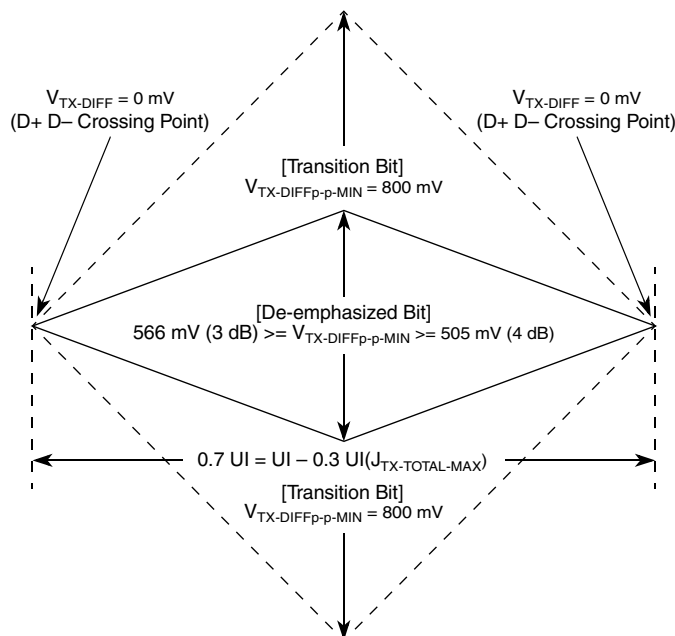
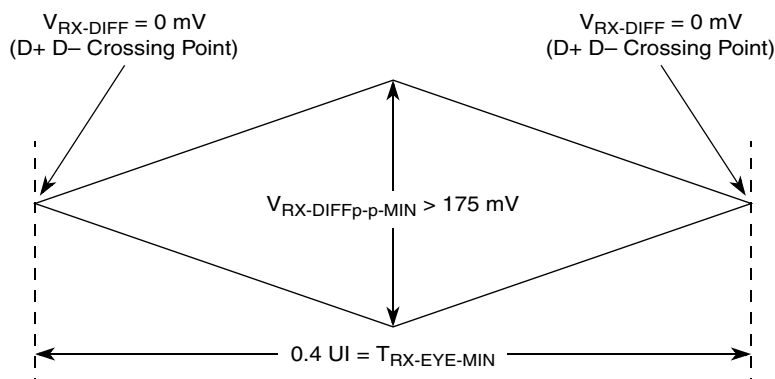
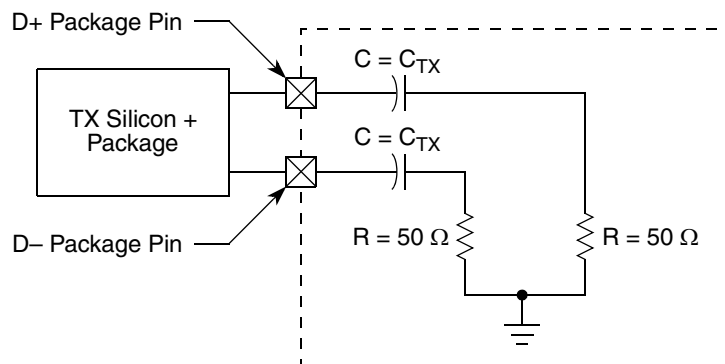

Figure 42. Minimum Transmitter Timing and Voltage Output Compliance Specifications
Figure 43. Minimum Receiver Eye Timing and Voltage Compliance Specification
Figure 44. Compliance Test/Measurement Load
2. Specified at the measurement point into a timing and voltage compliance test load as shown in Figure 44 and measured over any 250 consecutive Tx UIs. (Also refer to the transmitter compliance eye diagram shown in Figure 42.)
4. The transmitter input impedance will result in a differential return loss greater than or equal to 12 dB and a common mode return loss greater than or equal to 6 dB over a frequency range of 50 MT/s to 1.25 GHz. This input impedance requirement applies to all valid input levels. The reference impedance for return loss measurements is 50 Ω to ground for both the D+ and D– line (that is, as measured by a vector network analyzer with 50- Ω probes, see Figure 44). Note that the series capacitors, C_{TX} , is optional for the return loss measurement.
5. Measured between 20%–80% at transmitter package pins into a test load as shown in Figure 44 for both V_{TX-D+} and V_{TX-D-} .
The Tx eye diagram in Figure 42 is specified using the passive compliance/test measurement load (see Figure 44) in place of any real PCI Express interconnect + Rx component. There are two eye diagrams that must be met for the transmitter. Both diagrams must be aligned in time using the jitter median to locate the center of the eye diagram. The different eye diagrams differ in voltage depending on whether it is a transition bit or a de-emphasized bit. The exact reduced voltage level of the de-emphasized bit is always relative to the transition bit.
2. Specified at the measurement point and measured over any 250 consecutive UIs. The test load in Figure 44 should be used as the Rx device when taking measurements (also refer to the receiver compliance eye diagram shown in Figure 43). If the clocks to the Rx and Tx are not derived from the same reference clock, the Tx UI recovered from 3500 consecutive UI must be used as a reference for the eye diagram.
4. The receiver input impedance will result in a differential return loss greater than or equal to 10 dB with the D+ line biased to 300 mV and the D– line biased to –300 mV and a common mode return loss greater than or equal to 6 dB (no bias required) over a frequency range of 50 MT/s to 1.25 GHz. This input impedance requirement applies to all valid input levels. The reference impedance for return loss measurements for is 50 Ω to ground for both the D+ and D– line (that is, as measured by a vector network analyzer with 50- Ω probes, see Figure 44). Note that the series capacitors, C_{TX} , is optional for the return loss measurement.
The Rx eye diagram in Figure 43 is specified using the passive compliance/test measurement load (see Figure 44) in place of any real PCI Express Rx component. In general, the minimum receiver eye diagram measured with the compliance/test measurement load (see Figure 44) is larger than the minimum receiver eye diagram measured over a range of systems at the input receiver of any real PCI Express component. The degraded eye diagram at the input receiver is due to traces internal to the package as well as silicon parasitic characteristics that cause the real PCI Express component to vary in impedance from the
compliance/test measurement load. The input receiver eye diagram is implementation specific and is not specified. Rx component designer should provide additional margin to adequately compensate for the degraded minimum receiver eye diagram (shown in Figure 43) expected at the input receiver based on an adequate combination of system simulations and the return loss measured looking into the Rx package and silicon. The Rx eye diagram must be aligned in time using the jitter median to locate the center of the eye diagram.
The reference impedance for return loss measurements is 50 Ω to ground for both the D+ and D– line (that is, as measured by a Vector Network Analyzer with 50 Ω probes—see Figure 44). Note that the series capacitors, C_{PEACCTX}, are optional for the return loss measurement.
The AC timing and voltage parameters must be verified at the measurement point, as specified within 0.2 inches of the package pins, into a test/measurement load shown in Figure 44.